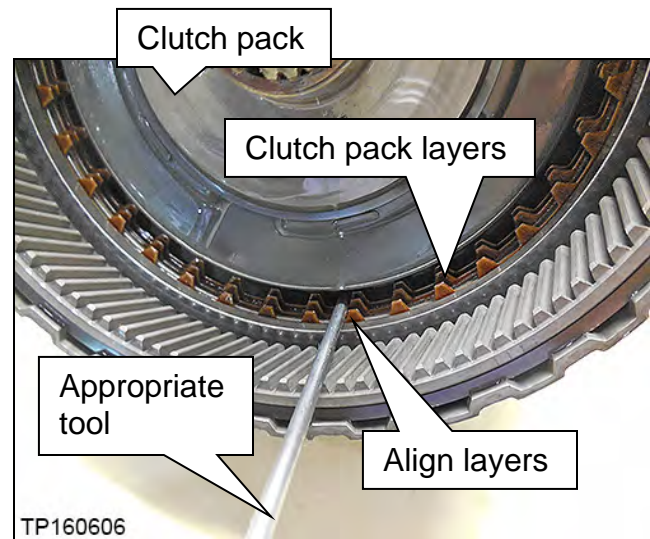

Figure 4L
- Bottom of the clutch pack shown in Figure 4L.